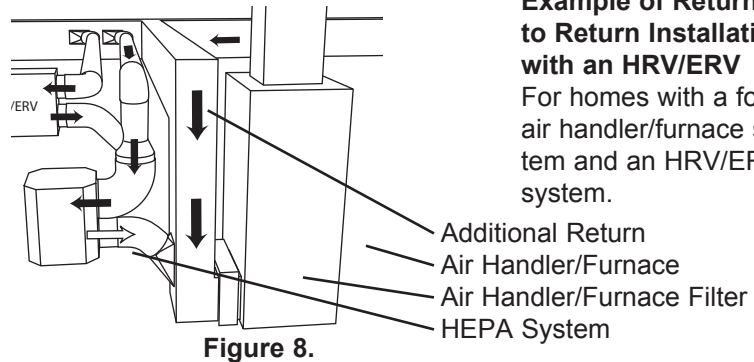

Figure 8.
This application provides filtration of all Outdoor Air (OA) that is brought into the home through the HRV/ERV, thus reducing the introduction of dust, pollen and mold from the outdoor air. For systems that have HRV/ERV units installed, we recommend ducting the 'fresh air' outlet from the HRV/ERV into the HEPA system. If the HRV/ERV CFM (cubic feet per minute) rating is lower than that of the HEPA system, an additional return needs to be installed into the HEPA system (See figure 8.) The output air from the HEPA system then needs to be installed into the main return of the air handler/furnace system.